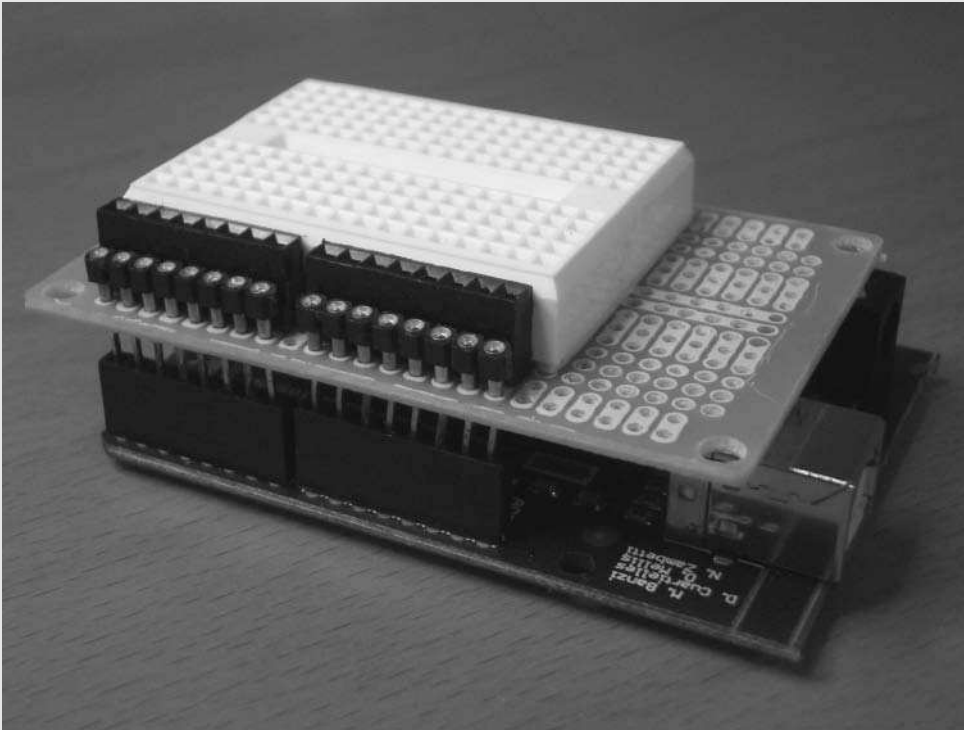

FIGURE 13-22: Finished shield plugged in to Arduino
6. Plug it into the Arduino board and start using it (see Figure 13-22).